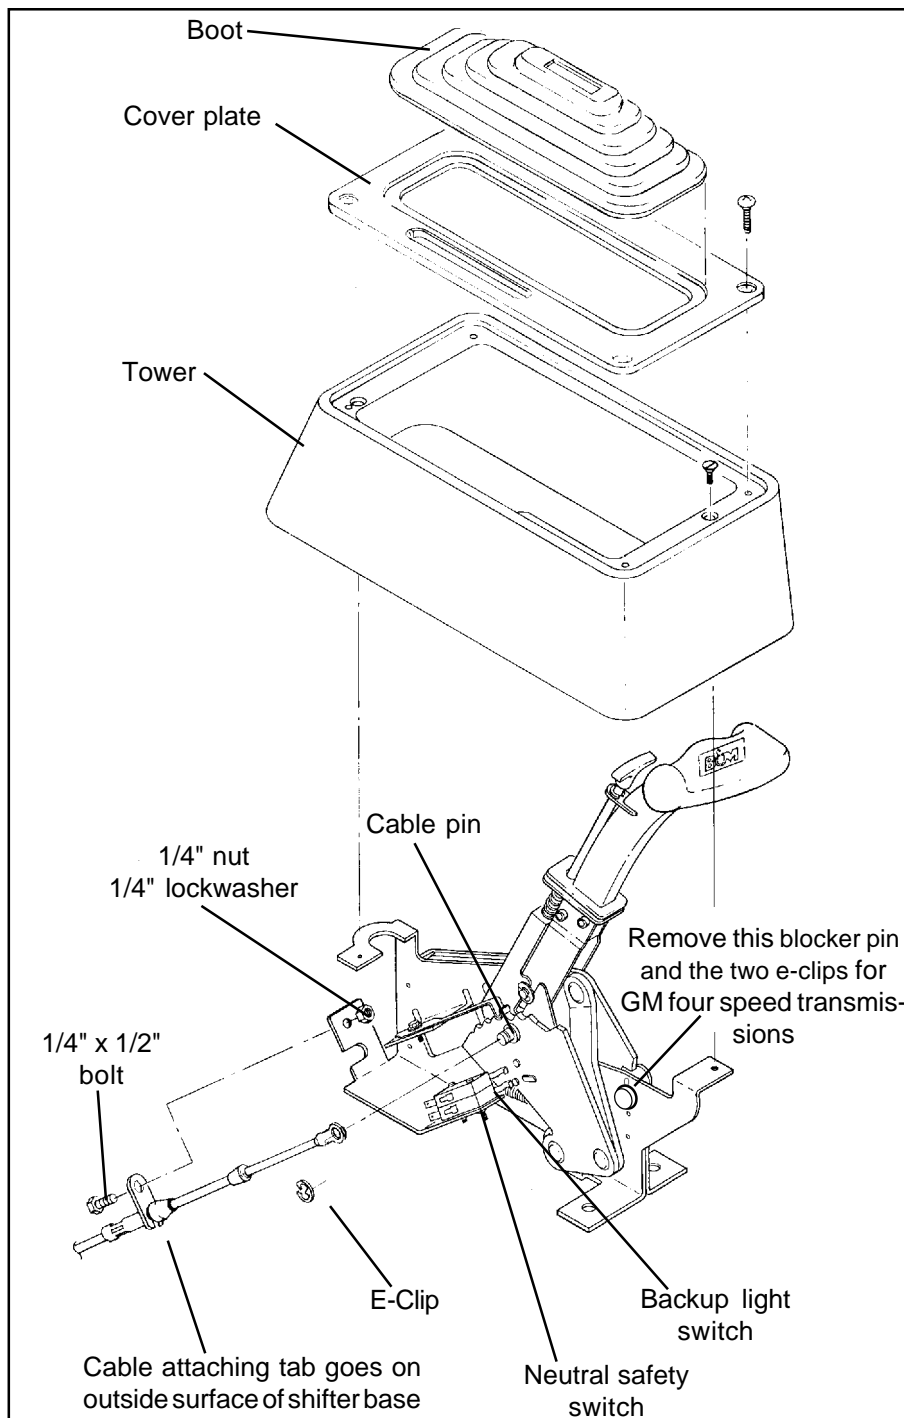

Figure 1
NOTE: If you are installing this shifter with a four speed automatic transmission, you must remove the blocker pin and the two e-clips indicated in **Figures 1 and 3**. Removing this blocker pin gives the shifter four forward positions rather than three. For Ford AOD four speed transmissions do **not** remove this blocker pin and the two e-clips, since this transmission has only three forward positions. Also do **not** remove the blocker pin and the two e-clips for three speed automatic transmissions.
STEP 5. Assemble the neutral safety and the reverse light switches to the bracket using two #4-40 x 1" screws and nuts, as shown in **Figure 1**. **Beware**, over tightening the switch attachment screws will crack the switch housings. Install the switch assembly on the shifter. To adjust the switches, loosen the screws and slide the switches in or out as required, then retighten the screws.
STEP 6. Install the cable on the shifter as shown in **Figure 1**. The cable attachment tab should be bolted to the